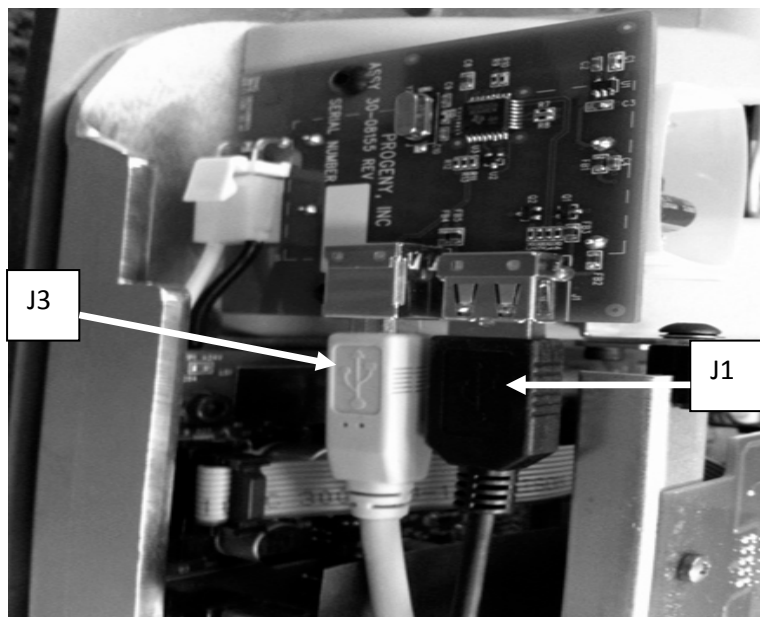

Figure 16: Connecting the Horizontal Arm Cables to the Powered USB Hub
2. Plug the USB cable from the Horizontal Arm into the Powered USB Hub at J1 (see Figure 16).
3. Attach the outbound 5 m USB cable into the Powered USB Hub at J3 (see Figure 16).